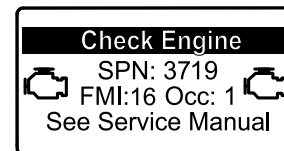

Figure 42
- If a parked regeneration is needed, the InfoCenter displays engine warning SPN 3719, FMI 16 (Figure 42) and the engine computer derates engine power to 85%.